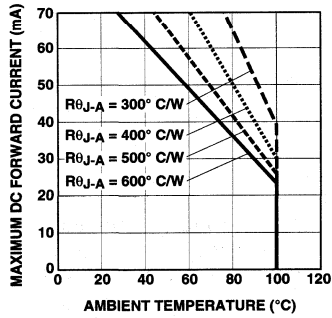

Figure 4a. HPWR-M300/HPWA-XX00 Maximum DC Forward Current vs. Ambient Temperature.
- Derate linearly as shown in Figure 4a and 4b.